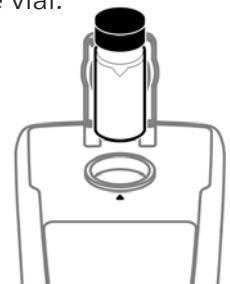

Figure 19: Insertion of the glass vial into the cell compartment.
- **Insert** the glass vial in the cell compartment so the diamond on the vial aligns with the orientation mark on the instrument (Figure 19).